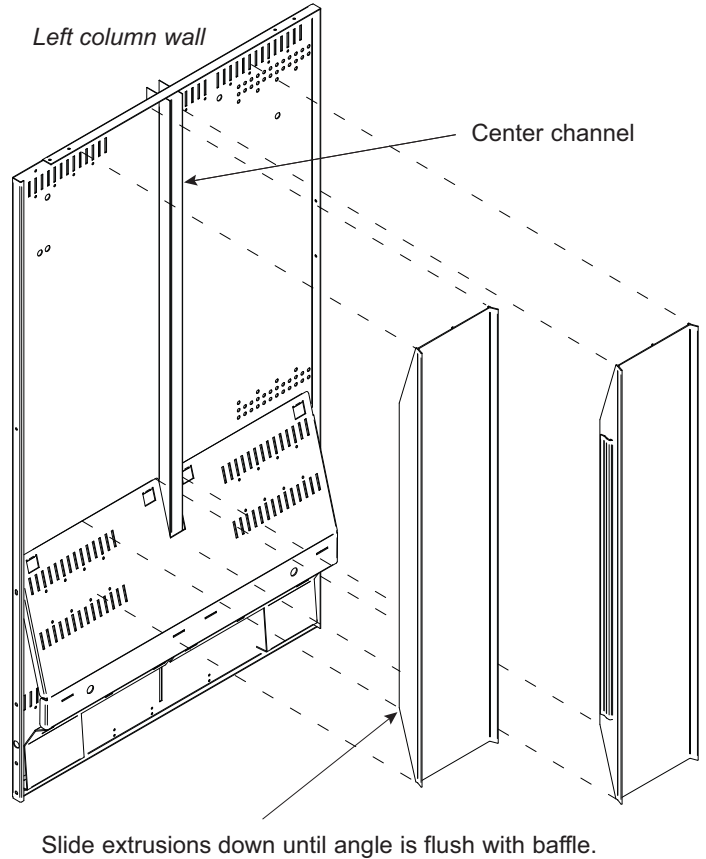

Figure 3.
- Attach one divider extrusion (815214) to the right side of the center channel. (See Figure 3.) Pull this extrusion down to the bottom of the column, but above the funnel angle.